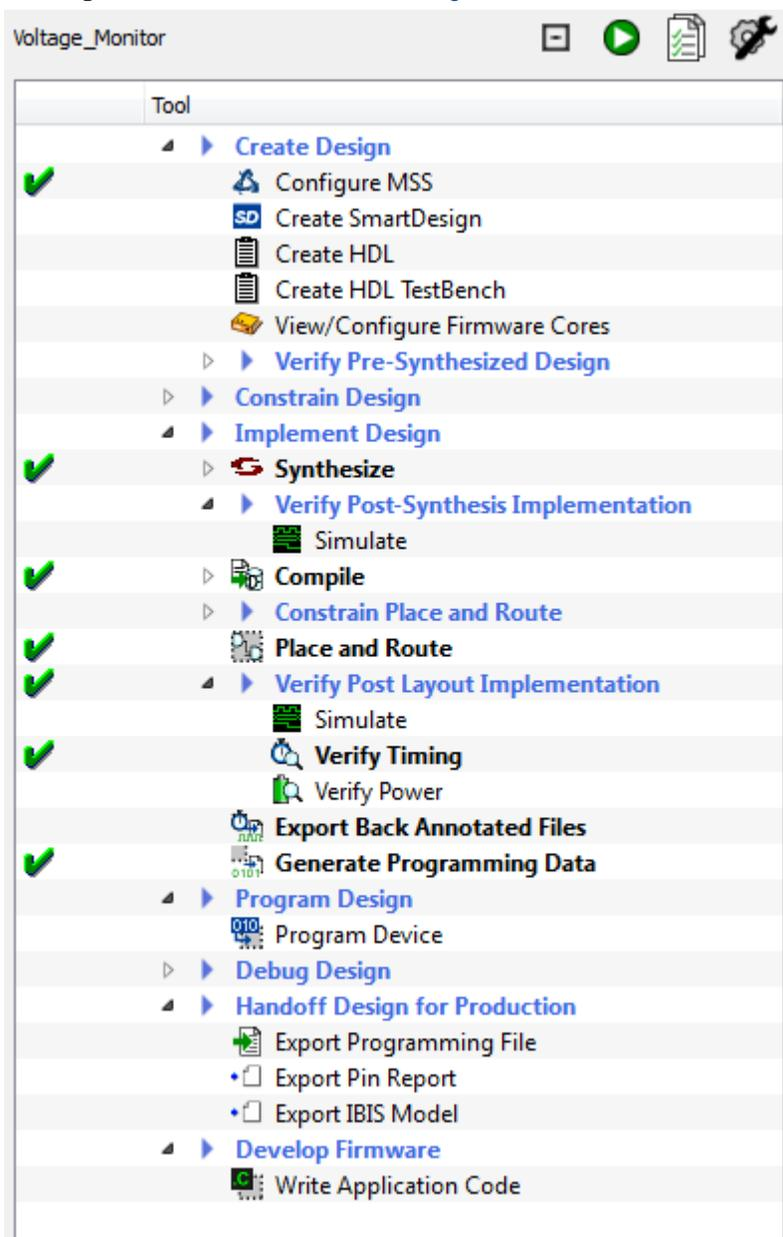

Figure 60 · Design Flow Window After Building The Project
7. The **Design Flow** window looks similar to Figure 60 . .